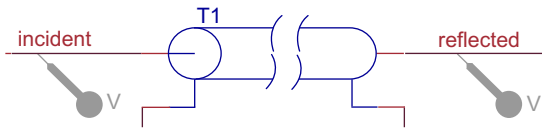

FIGURE 17.8
4. Add voltage markers on the incident and reflected nodes (Figure 17.8) and run the simulation.